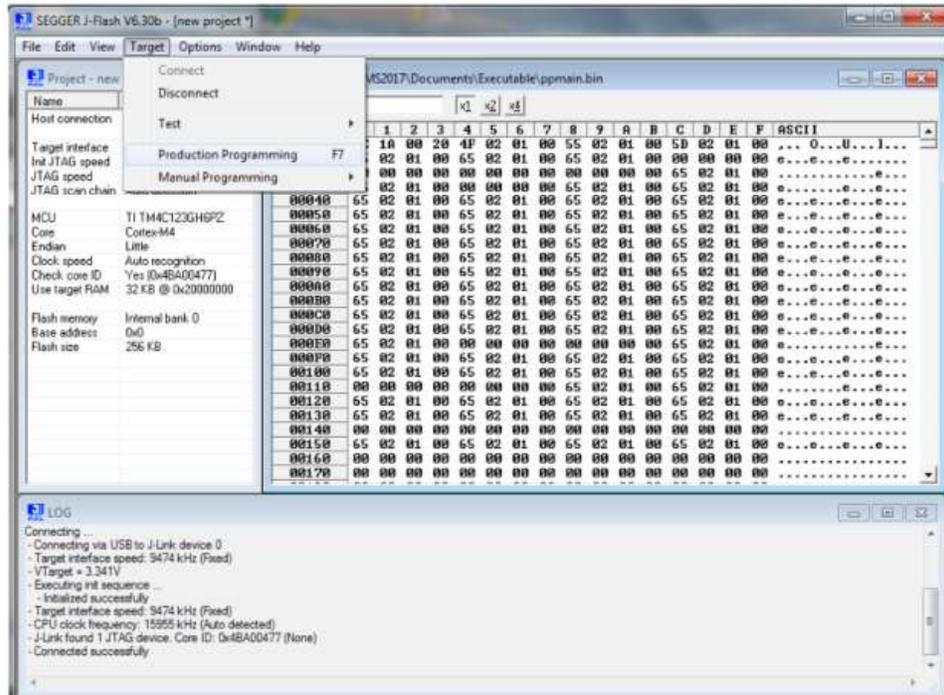

Figure 28: Production programming [Program]
14. Again click "Target" (on the top ribbon) and select "Production Programming" on the pop-up (Figure 28, STMA-69143);